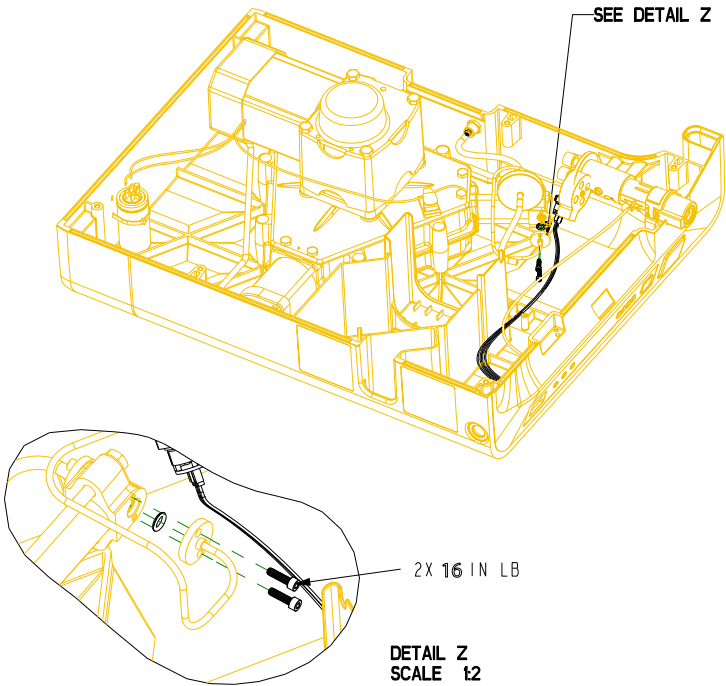

FIGURE 8-6 3RD STAGE CYLINDER DETAIL
5. Remove the two 7/64" Allen screws from the 3rd stage cylinder and remove the tube flange from the cylinder. Refer to Figure 8-6.
7. Install the two Allen Screws and secure the 3rd Stage Cylinder to the Tube Flange by tightening to 16 in-lbs. Refer to Figure 8-6.